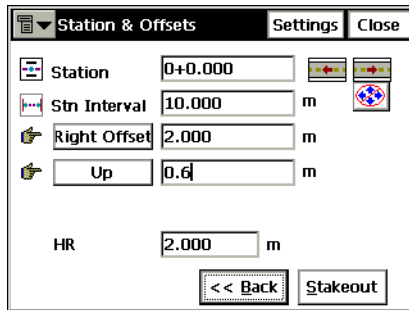

Figure 7-30. Station & Offsets
3. In the *Station & Offsets* screen (Figure 7-30), set the station along the curve being staked, the station staking interval, the right or left offset of the stakeout point with respect to the curve, the Up or Down Height offset, the height and the type of the antenna height (GPS mode), or the height of the rod (target) (TS mode).